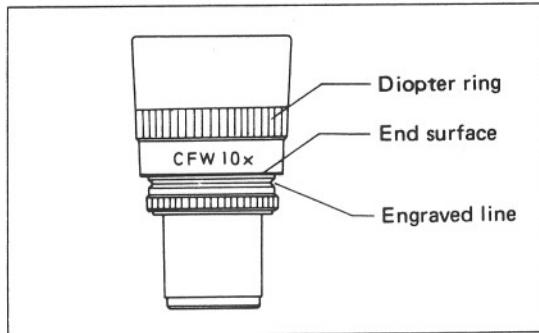

Fig. 12
- (1) Turn the diopter ring on each eyepiece, until the end surface of the milled ring coincides with the engraved line, as shown in Fig. 12.